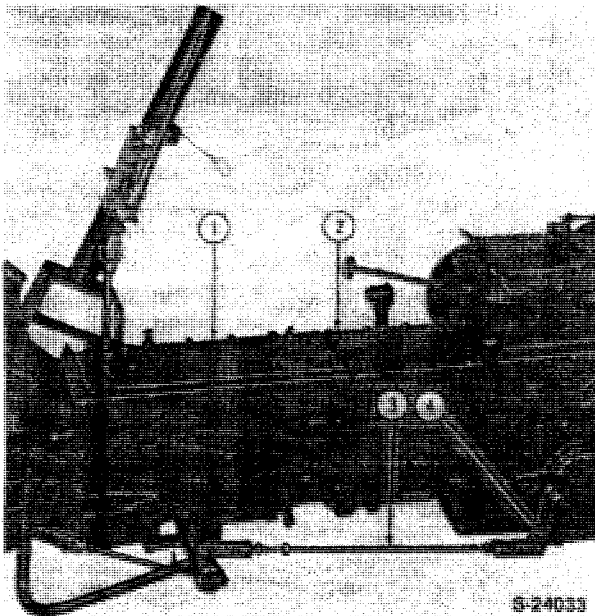

Figure 30
18. Remove the transmission cover (1) and rear cover (2), Figure 30.